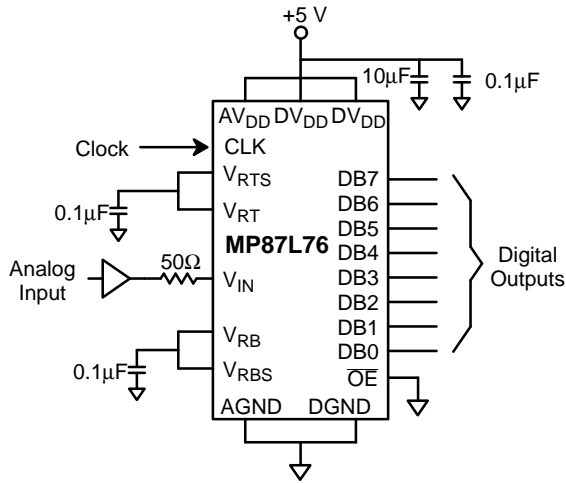

Figure 5. Typical Circuit Connections
AV_{DD} and DV_{DD} should be connected to the sample power supply source (Figure 5.). The power supply (AV_{DD} and DV_{DD}) and reference voltage (V_{RT} & V_{RB}) pins should be decoupled with $0.1\mu F$ and $10\mu F$ capacitors to GND, placed as close to the chip as possible.
2. It is important to note that op amps have inductive output impedances at high frequencies which is a consequence of the emitter impedance of the typical push-pull output stage. The resulting transient ringing should be damped by inserting a resistor in series with the ADC input – typically about 50Ω . See Figure 5. The exact value may be obtained from the op amp manufacturer's data sheet.